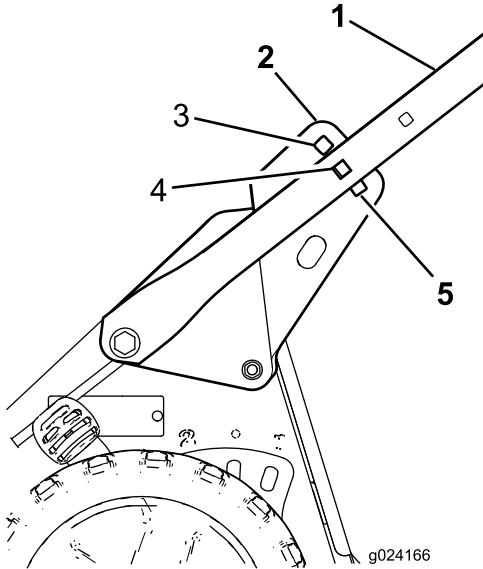

**Figure 3**
1. Remove the cable guard from the handle (Figure 3) by removing the 2 carriage bolts and 2 locknuts that hold the cable guard to the handle.
2. Install the handle ends onto the mower housing with 2 hex-head-flange bolts (5/16 x 1-1/2 inches) and 2 flange nuts (5/16 inch) as shown in Figure 3.
6. Position the cable guard onto the handle with the cable(s) inside the guard, and secure the guard to the handle with the 2 carriage bolts and the 2 locknuts that you previously removed (Figure 3).